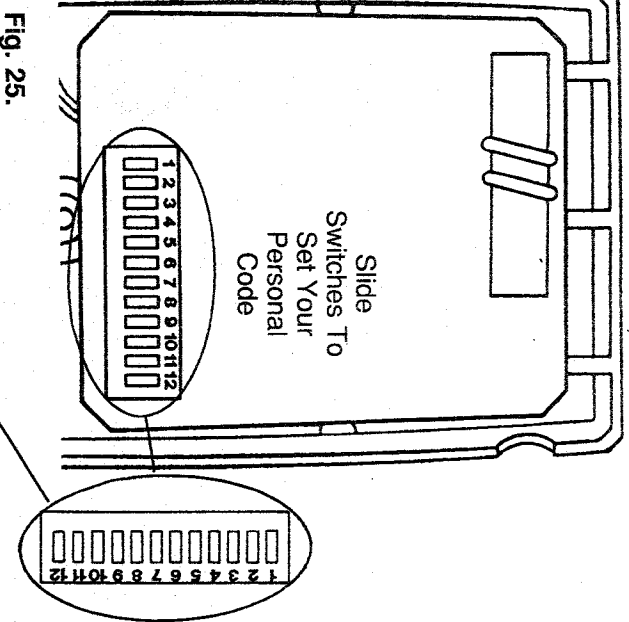

Fig. 25.
2 SLIDE THREE (3) OR MORE CODE SWITCHES TO SET YOUR PERSONAL CODE. (Fig. 25)
3 HOLD REMOTE CONTROL NEXT TO OPERATOR CODE SWITCHES. (Fig. 25)